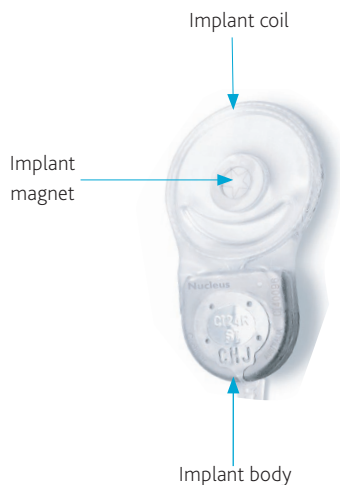

Figure 4: Location of the implant magnet on CI24R implant
- Touch - gently feel around the implant site to locate the position of the implant coil. The implant is comprised of two components; the round implant coil and the implant body. See *Figure 4* below. The implant magnet will be at the centre of the implant coil.